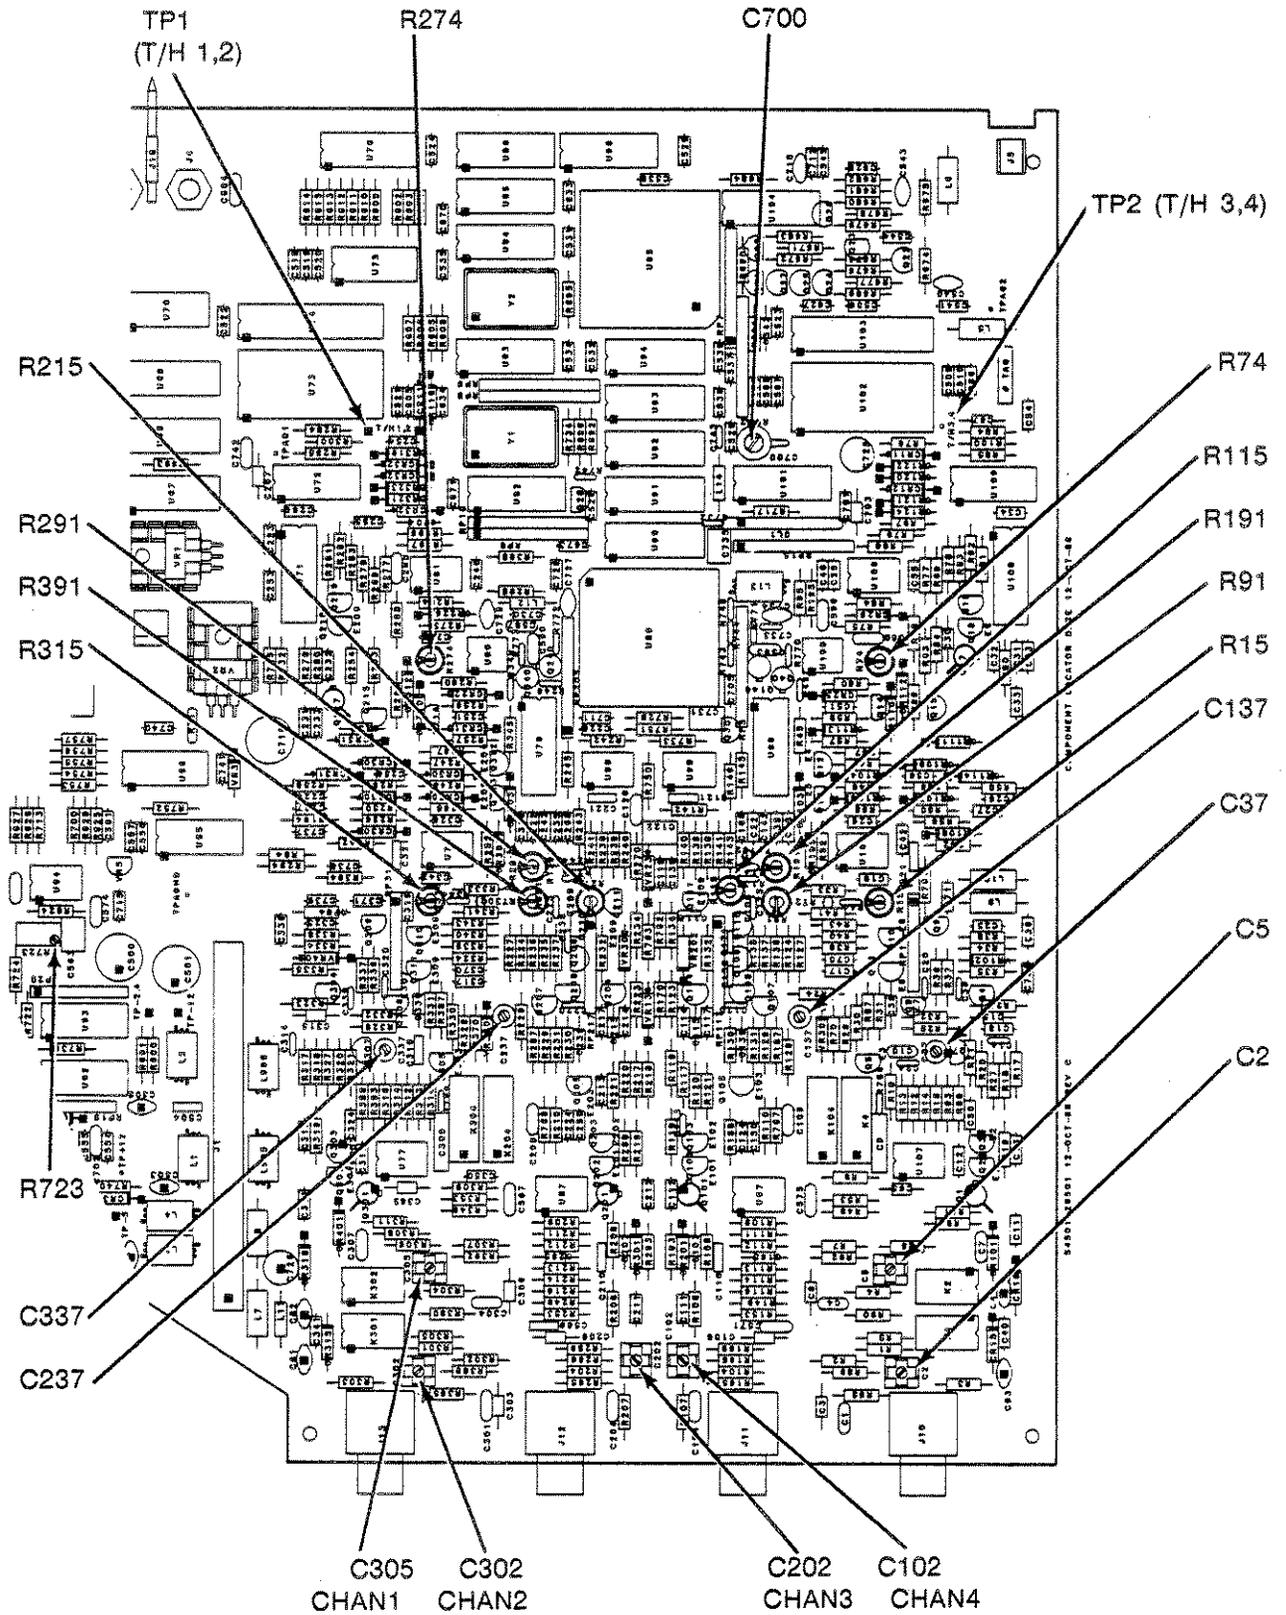

Figure 4-4. HP 54501A System Board Assembly Component Locator
5. Adjust System Board Assembly R723 for DVM indication of 5.0000 V. Refer to figure 4-4 for adjustment location.
2. Connect oscilloscope probe to System Board Assembly TP1 (T/H 1,2) Refer to figure 4-4 for location of testpoints.
4. Adjust System Board Assembly R315 for displayed signal with flat top and baseline. Refer to figure 4-4 for adjustment location.